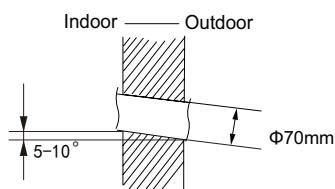

Fig.2
(2) Open a piping hole with the diameter of $\Phi 70\text{mm}$ on the selected outlet pipe position. In order to drain smoothly, slant the piping hole on the wall slightly downward to the outdoor side with the gradient of $5\text{--}10^\circ$. (As show in Fig.2)